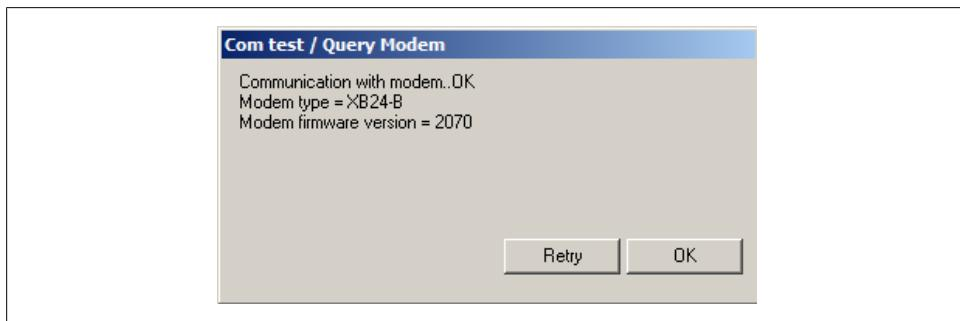

Figure 2-7. X-CTU test confirmation
The default settings in X-CTU will usually work for brand-new XBee radios that were configured at the factory. The easiest way to confirm that everything is set up correctly is to click on the Test/Query button once you've selected a COM port. If all goes well, you'll see a message that communication with the modem is OK and that gives you the modem type and firmware version, as shown in Figure 2-7.
2. Next, look in both the `xbee_s2` (series 2) and `xbee_zb` (ZigBee firmware) subdirectories to find the firmware file that matches what you saw in Figure 2-7 (for example, `XB24-ZB_2041.zip` for a regular XBee, `XBP24-ZB_2041.zip` for an XBee-PRO).